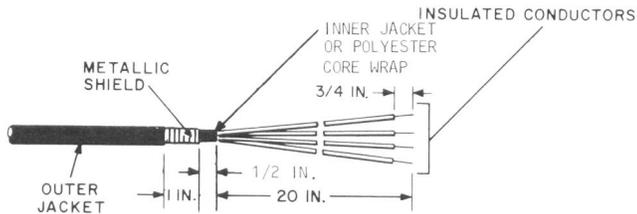
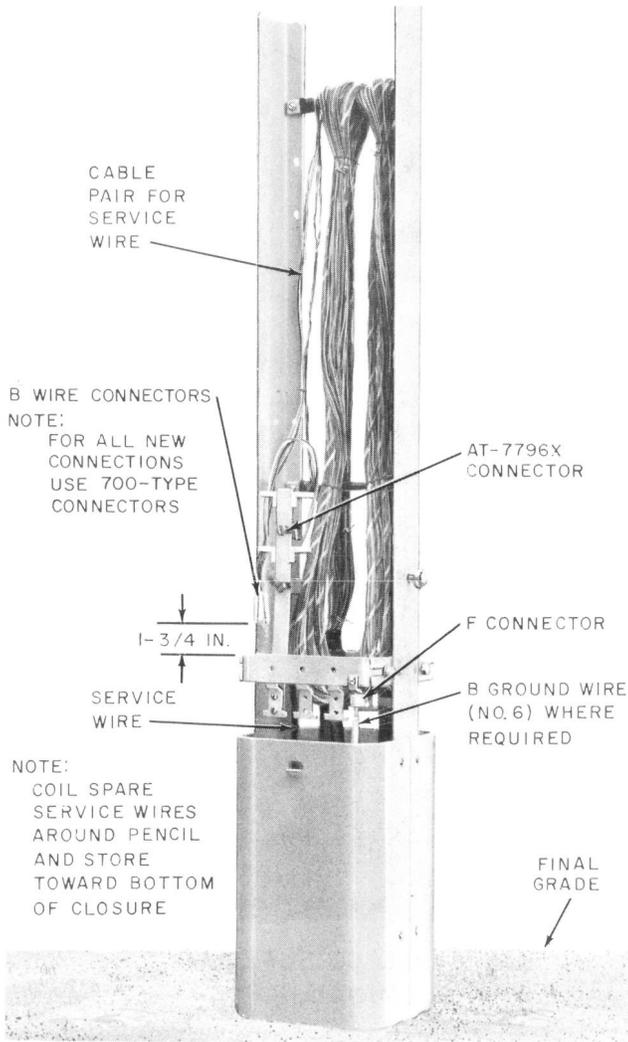

Fig. 26—Prepared Service Wire—LD-Type Cable Closure
Fig. 27—Service Wire Installed—LD-Type Cable Closure
7.10 Prepare the service wire as shown in Fig. 26 and terminate as illustrated in Fig. 27.